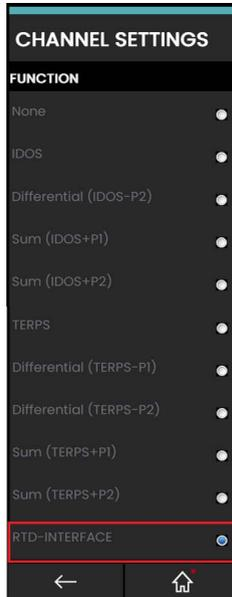

Figure 6-3: CHANNEL SETTINGS screen - available FUNCTIONS
5. Tap on the **FUNCTION** menu row option to show the related **CHANNEL SETTINGS** screen, Figure 6-3 below, to show a list of the available functions for the channel. Tap on **RTD-INTERFACE** at the bottom of the list.